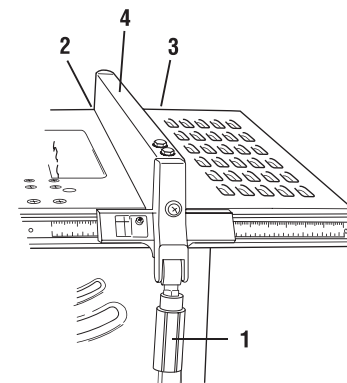

FIG. 29
- Raise rip fence handle 1 as shown (Fig. 29), so holding clamp 2 is out far enough to fit on the table 3.
- Position the rip fence 4 over table, holding up the front end while engaging rear, then lowering front end onto rail. (Fig. 29)